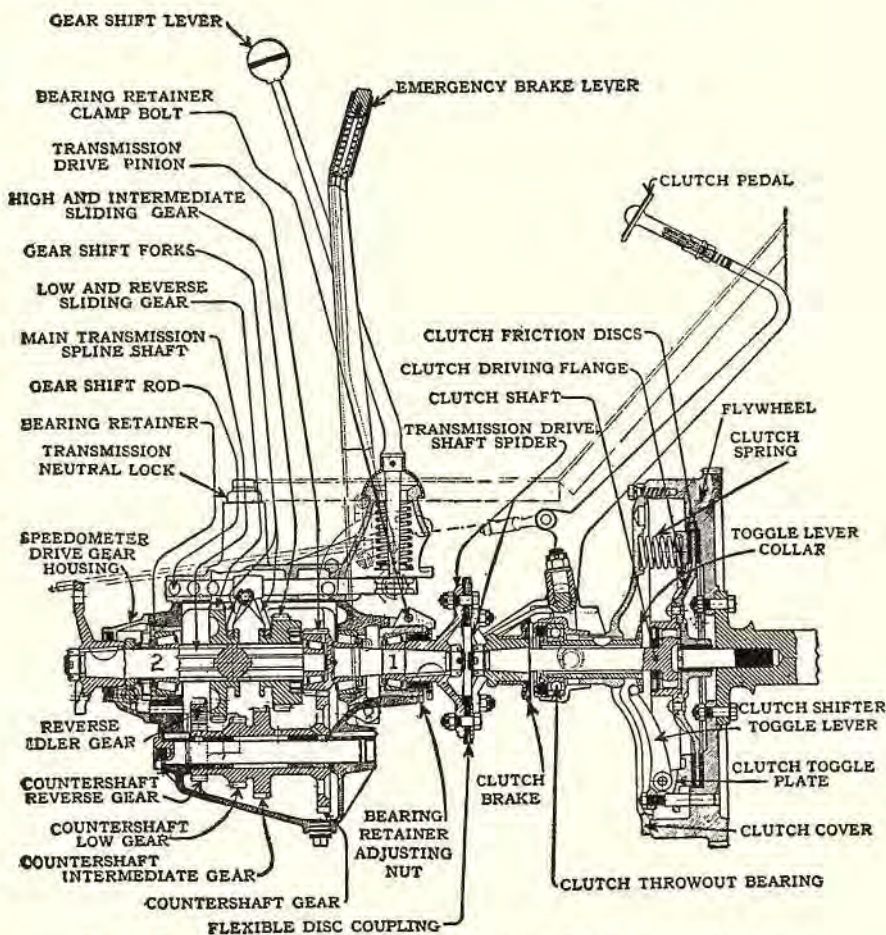

Fig. 38. Sectional view of the clutch and transmission of the Studebaker "Light six."
Operation of clutch: The driven member is a single malleable-iron disk placed between two friction plates. Six coil springs are used to exert pressure on the clutch toggle plate, acting upon friction plates and a malleable disk located between the toggle plate and flywheel (Fig. 38).
Clutch brake: The braking action on the clutch occurs when the grease retainer nut of the clutch throw-out bearing is brought in contact with the leather-faced flange, which is a part of the flexible coupling spider, keyed to the clutch drive shaft (Fig. 38).
8. Usually the teeth of the "intermediate gear" and external and internal "high and intermediate sliding gear" (Fig. 38) wear first.
Other troubles: When dogs become worn (see part No. 139, page 26) so that they slip out of engagement, they may be dressed up or squared by grinding. Most transmissions now use internal gears, as shown in Fig. 38 ("drive pinion" and "high and intermediate sliding gear").
Type of transmission: The transmission is of the selective sliding-gear type, located at an intermediate position just behind the engine (Fig. 38). It consists of three shafts and a series of gears. Two of these shafts—the main transmission spline shaft and the pinion shaft—are in direct line with each other, the end of the main transmission spline shaft turning in the end of the pinion shaft. The third shaft, operated parallel with the pinion shaft and the main transmission spline shaft, is called the counter-shaft.
To adjust the pinion shaft (1) (Fig. 38) for wear, remove the retainer clamp bolt, and turn the retainer nut in the front end of the transmission case in a counter-clockwise direction until all end play is just removed.
Adjustment of the main drive shaft (2) (Fig. 38) is made by removing the bolts which hold the speedometer drive-gear housing to the transmission case, sliding the cover back far enough to give room for a spanner wrench. Then turn the bearing retainer in a clockwise direction until all end play is just removed.